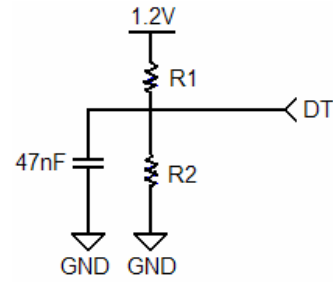
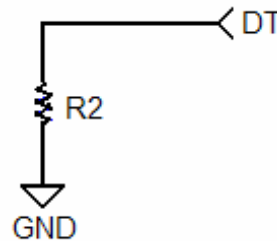

FIGURE 32A.
FIGURE 32B.
**Detection Threshold (DT) Pin Functionality**
The QLx4600-SL30 is capable of maintaining periods of line silence on any of its four channels by monitoring each channel for loss of signal (LOS) conditions and subsequently muting the outputs of a respective channel when such a condition is detected. A reference current applied to the detection threshold (DT) pin is used to set the LOS threshold of the internal signal detection circuitry. Current control on the DT pin is done via one or two external resistors. Nominally, both a pull-up and pull-down resistor are tied to the DT pin (Figure 32A), but if adequate control of the supply voltage is maintained to within  $\pm 3\%$  of 1.2V, then a simple pull-down resistor is adequate (as in Figure 32B). Resistors used should be at least 1/16W, with  $\pm 1\%$  precision.
The internal bias point of the DT pin, nominally 1.05V, is used in conjunction with the voltage divider (R1 and R2) shown in Figure 32A to set the reference current on the DT pin.
For channels exhibiting more than 25dB of total loss (this includes cable or FR-4 loss) the DT pin should be configured for a reference sink current (coming out of the DT pin) of approximately 2 $\mu$ A. A typical configuration for a 2 $\mu$ A sink current is given in Figure 32C. If the configuration in Figure 32B is utilized, a 525k $\Omega$  resistor would be used.